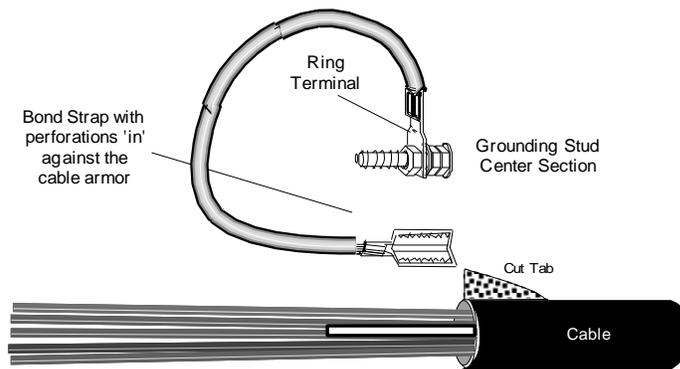

Figure 8 – Grounding Wire Attachment
12.03 Terminate the ring terminal(s) of the bond wire(s) on each of the cables to a common ground terminal on the inside of the center section. See **Figure 8**. Tighten the ground terminal hex nuts securely.